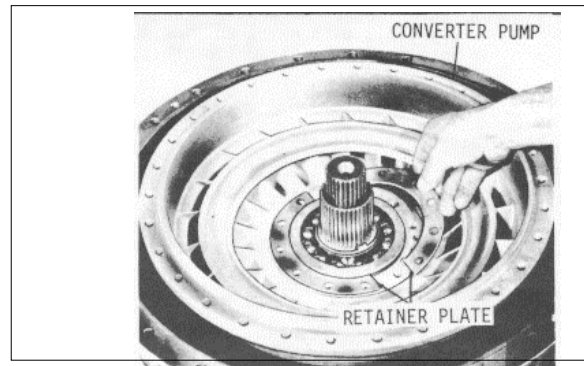

Fig. 39
- (3) Install the converter pump assembly (Fig. 39).
- (4) Install the split retainer (Fig. 39).